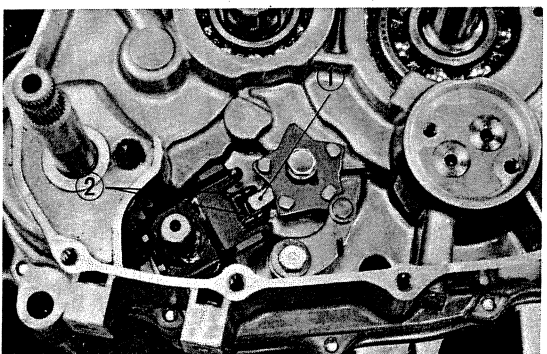

Fig. 75 Spindle installation
- 2) Assemble the gear shift assembly. (Fig. 75)